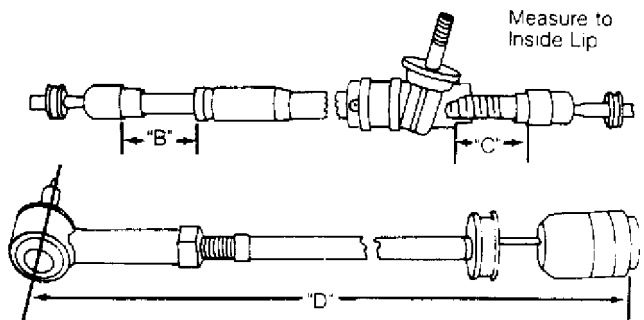

Fig. 1: Installation Adjustment Of Tie Rods On Rack
4) When measurements are correct, secure tie rods with lock nuts. Install rubber boots. See Fig. 1.